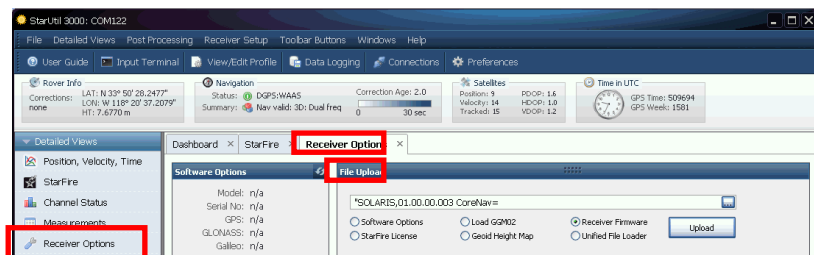

Figure 14: Receiver Options Tab
28. Click *Receiver Options* on the *Detailed Views* menu to open the *Receiver Options* tab (see Figure 14).